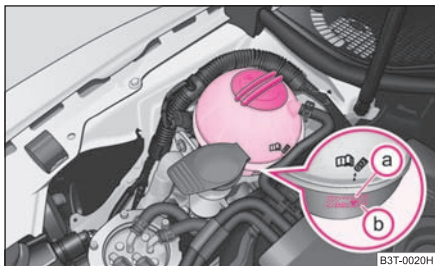

Fig. 189 Engine compartment: Coolant expansion bottle
- Check the level of coolant in the coolant expansion bottle ⇒ fig. 189. The coolant level when the engine is cold must lie between the **(b)** (MIN) and **(a)** (MAX) markings. The level may also rise slightly above the **(a)** (MAX) marking when the engine is warm.
- Place a cloth over the cap of the coolant expansion reservoir ⇒ fig. 189 and unscrew the cap **carefully** by turning it to the left ⇒ .